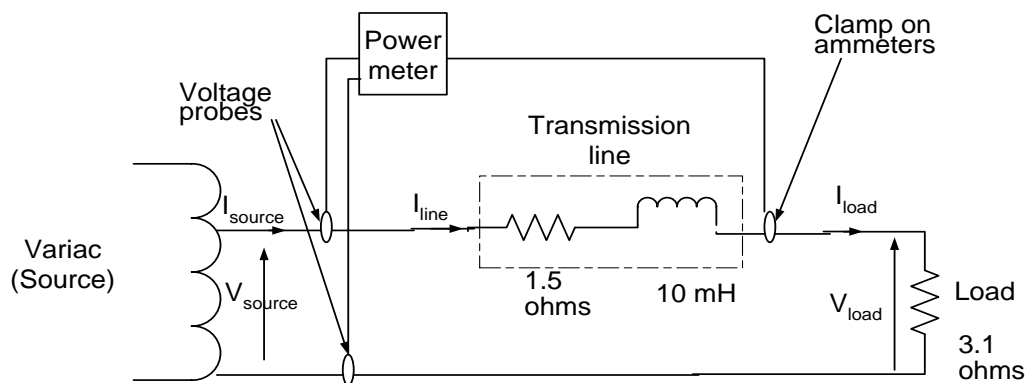

Figure 3: A laboratory scale power system model with no transformers
6.2.1. Connect the circuit as shown in Figure 3. **Have your circuit checked by the laboratory demonstrator.**